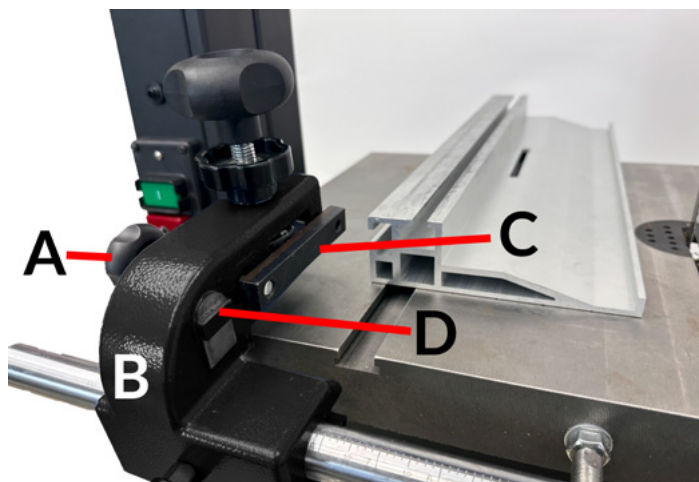

Figure 7
1. Loosen the side Handle (#7, Fig. 7, A) that secures the rip fence to the Fence Carrier (#9, B). Ensure the handle is completely loosened to facilitate easy movement.
2. Slide the fence forward to detach it from the carrier's Sliding Block (#11, Fig. 7, C). Carefully remove the fence, ensuring that it clears the sliding block without any obstruction.
4. Rotate the fence to its horizontal position and slide it back onto the carrier. The bottom of the fence has a slot that fits onto the sliding block, aligning with the small, raised key on the side of the carrier (Fig. 7, D).
1. Loosen the side Handle (#7, Fig. 7, A) that secures the rip fence to the Fence Carrier (#9, B). Make sure the handle is completely loosened to allow for easy removal of the fence.
2. Slide the fence forward to detach it from the carrier's Sliding Block (#11, Fig. 7, C). Once removed, move the carrier along the front rail to position it on the right side of the table and blade.